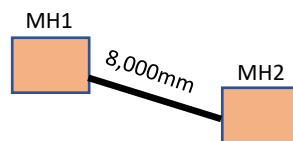

Figure 3a / Rajah 3a
- (a) Figure 3a shows Manhole 1 (MH1), which has dimensions of 750 mm x 600 mm with a depth of 750 mm. The size of the pipe (sewer) used is 150 mm. Estimate the depth and determine the dimensions of Manhole 2 (MH2) by referring to Tables 6 and 7.